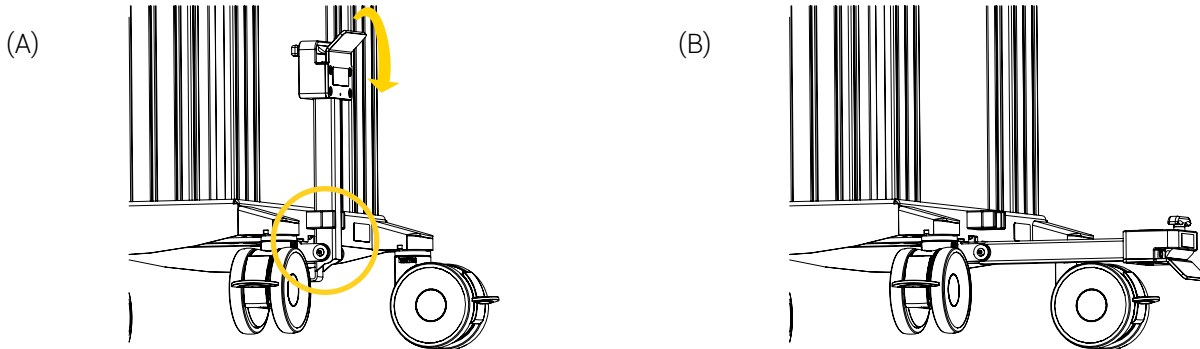

Figure 6 : Pivoting the fold-up hitch
2. If required, disengage the braking system on all four (4) dual wheel swivel casters of the THS Neonatal Cart.
3. If required, disengage the four (4) locking brakes of the incubator, then engage the directional castor to facilitate straight movements.
- Lower the THS Neonatal Cart fold-up hitch using your foot to free it from its clip (Figure 6 A), then pivot the arm downwards until it has reached its final position (Figure 6 B).